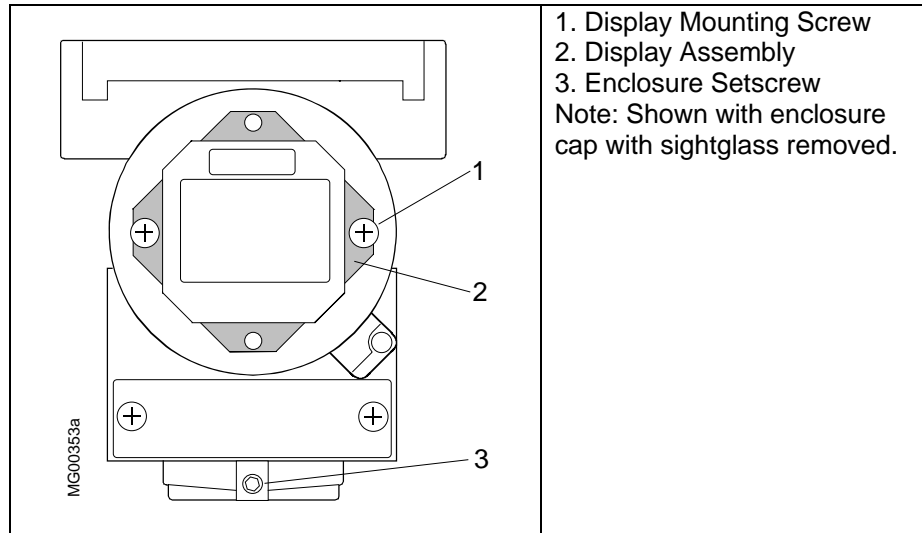

FIGURE 14 Display Removal and Repositioning
As supplied the display is oriented for viewing with the transmitter installed vertically, as shown in Figure 14. When the transmitter is installed in another orientation, perform the following steps to reorient the display for ease of reading.
4. Use a Phillips blade screwdriver to remove the two screws holding the display; see Figure 14. The display is electrically connected to the transmitter electronics by the display cable.